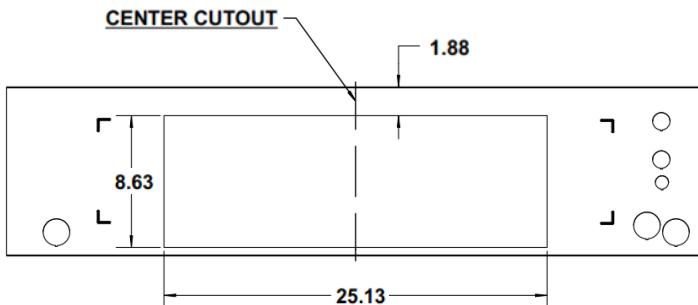

FIGURE 1 – Single Filter Cutout, 8-5/8" X 25-1/8"
- 3) Make cutout based on the center and upper cabinet locations. Dimension will vary if using the single filter and double filter. See Figure 1 and 2.